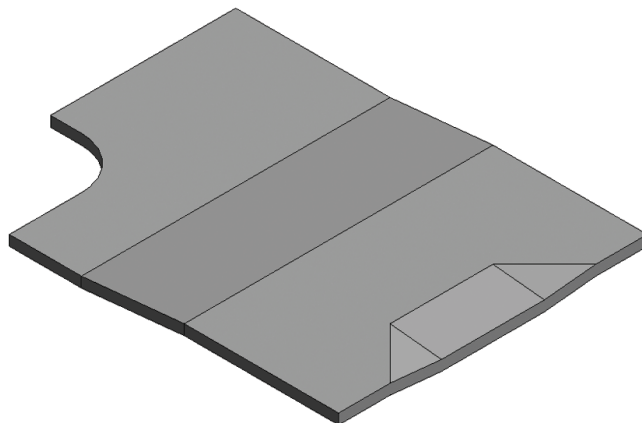

FIGURE 3.11 The finished depression
- Do the same for the shape handle to the right. When you've finished, the depressed area resembles Figure 3.11.